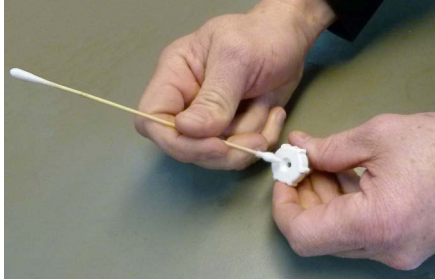

Figure 6-21 Cleaning Probe
5. Insert a cotton swab dampened with IPA into probe center to clean it. (See Figure 6-21.)